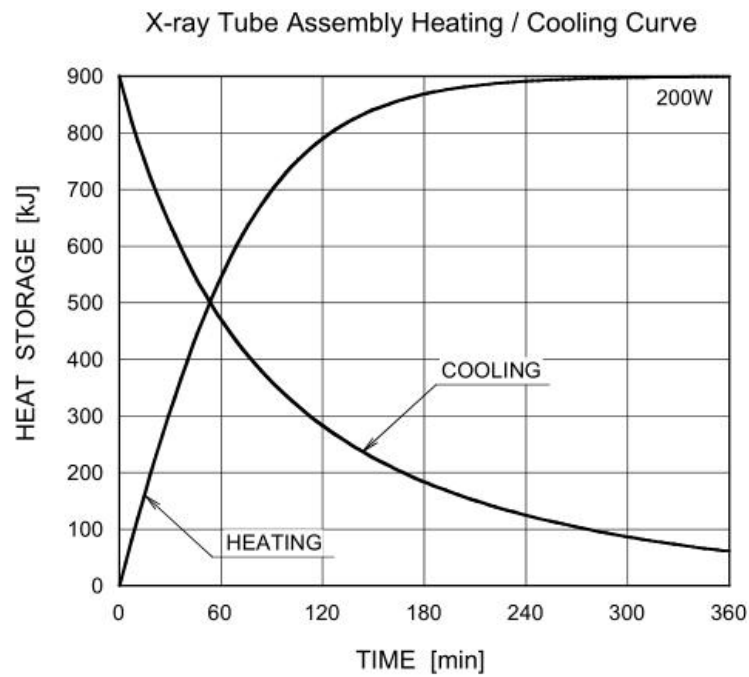

Figure 2-4 Thermal characteristics of X-ray tube assembly
- 18. Refer to **Figure 2-4** for cooling characteristics of assembly.